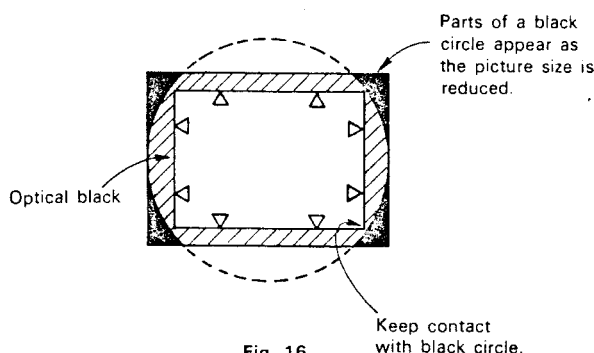

Fig. 16
- 4) Change the zoom ratio of the lens and camera position, and set so that the left side of the chart keeps contact with the optical black and 4 corners have parts of the black circle as shown in Fig. 16.